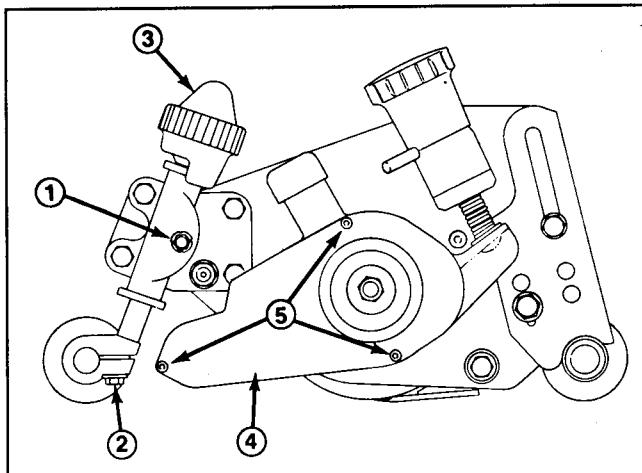
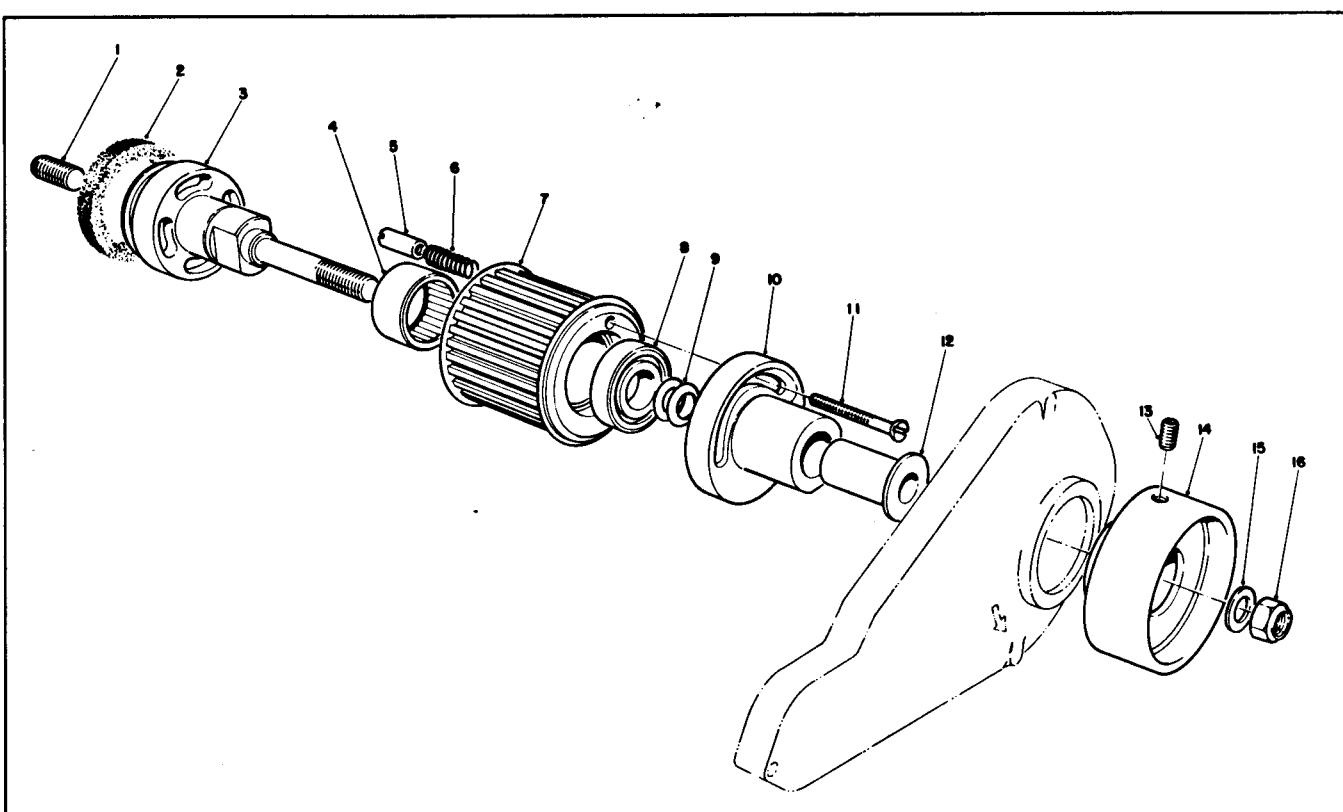

Figure 39
Figure 51
2. Loosen two (2) set screws and remove clutch knob. Remove groomer reel housing cover from left side of cutting unit (Fig. 39).
19. Adjust belt tension. (See Groomer Reel Drive Belt Adjustment in the Adjustments section of this book.) Install groomer reel housing cover (Fig. 39). Install clutch knob and tighten two (2) set screws against flats of clutch release disk.
1. Loosen two (2) set screws and remove clutch knob (Fig. 6). Remove groomer reel housing cover from left side of cutting unit (Fig. 39).
1. Loosen two (2) set screws and remove clutch knob (Fig. 51). Remove groomer reel housing cover from left side of cutting unit (Fig. 39).
3. Remove nut and washer from clutch adapter shaft (Fig. 51). Pull clutch assembly off adapter shaft and slide belt off driven pulley.
6. To disassemble clutch, remove special screw and clutch pin (Fig. 51).
7. Check condition of roller bearing and needle bearing (Fig. 51). Replace bearings if worn or damaged.
5. Adjust belt tension. (See Groomer Reel Drive Belt Adjustment in the Adjustments section of this book.) Install groomer reel housing cover (Fig. 39). Install clutch knob and tighten two (2) set screws against flats of clutch release disk.